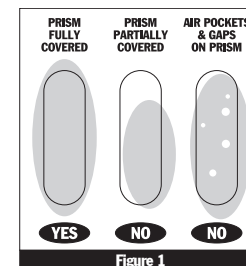

Figure 1
- 3 Gently close the daylight plate over the prism. The distilled water should spread as a thin, even layer in between the daylight plate and the prism. By looking through the daylight plate, ensure that the distilled water covers the ENTIRE surface of the prism. If there are bubbles and gaps or if the distilled water is only on one portion of the prism, the distilled water must be reapplied (Figure 1). Inaccurate calibrations will result if the prism is not covered correctly.